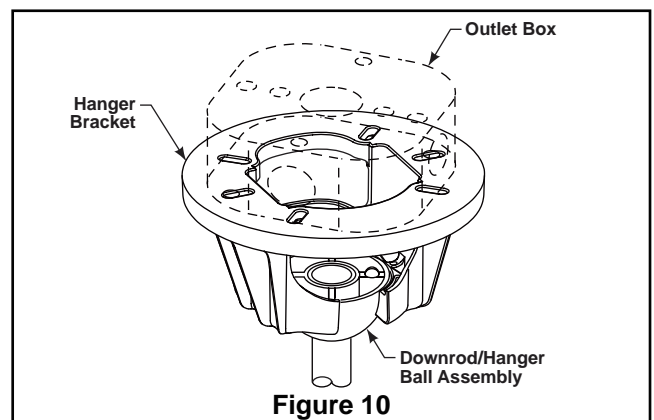

Figure 10
2. Carefully lift the fan and seat the downrod/hanger ball assembly on the hanger bracket that was just attached to the outlet box. Be sure the groove in the ball is lined up with tab on the hanger bracket. (Figure 10)